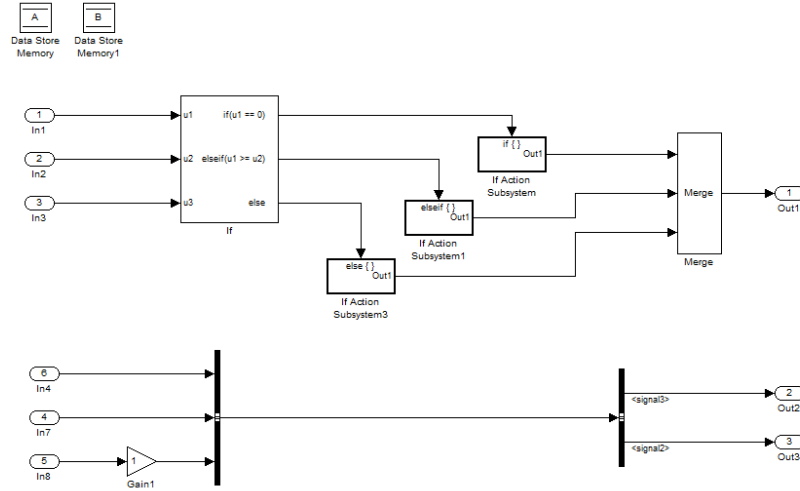

Figure 3: Reach/Coreach demo model.
Use the command `ReachCoreachDemo` in the Simulink command window to open the example model, shown in Figure 3. This example has control and data flow pass through **Data Stores**, **If** and **If Action** subsystems, as well as a **Bus Creator** and **Bus Selector**. The following steps will demonstrate the various functionalities of the tool.
2. To clear the highlighting now present in the model due to the previous reach operation, right-click anywhere in the model and select the **Clear Reach/Coreach** option. This will revert the model's appearance to that of Figure 3.